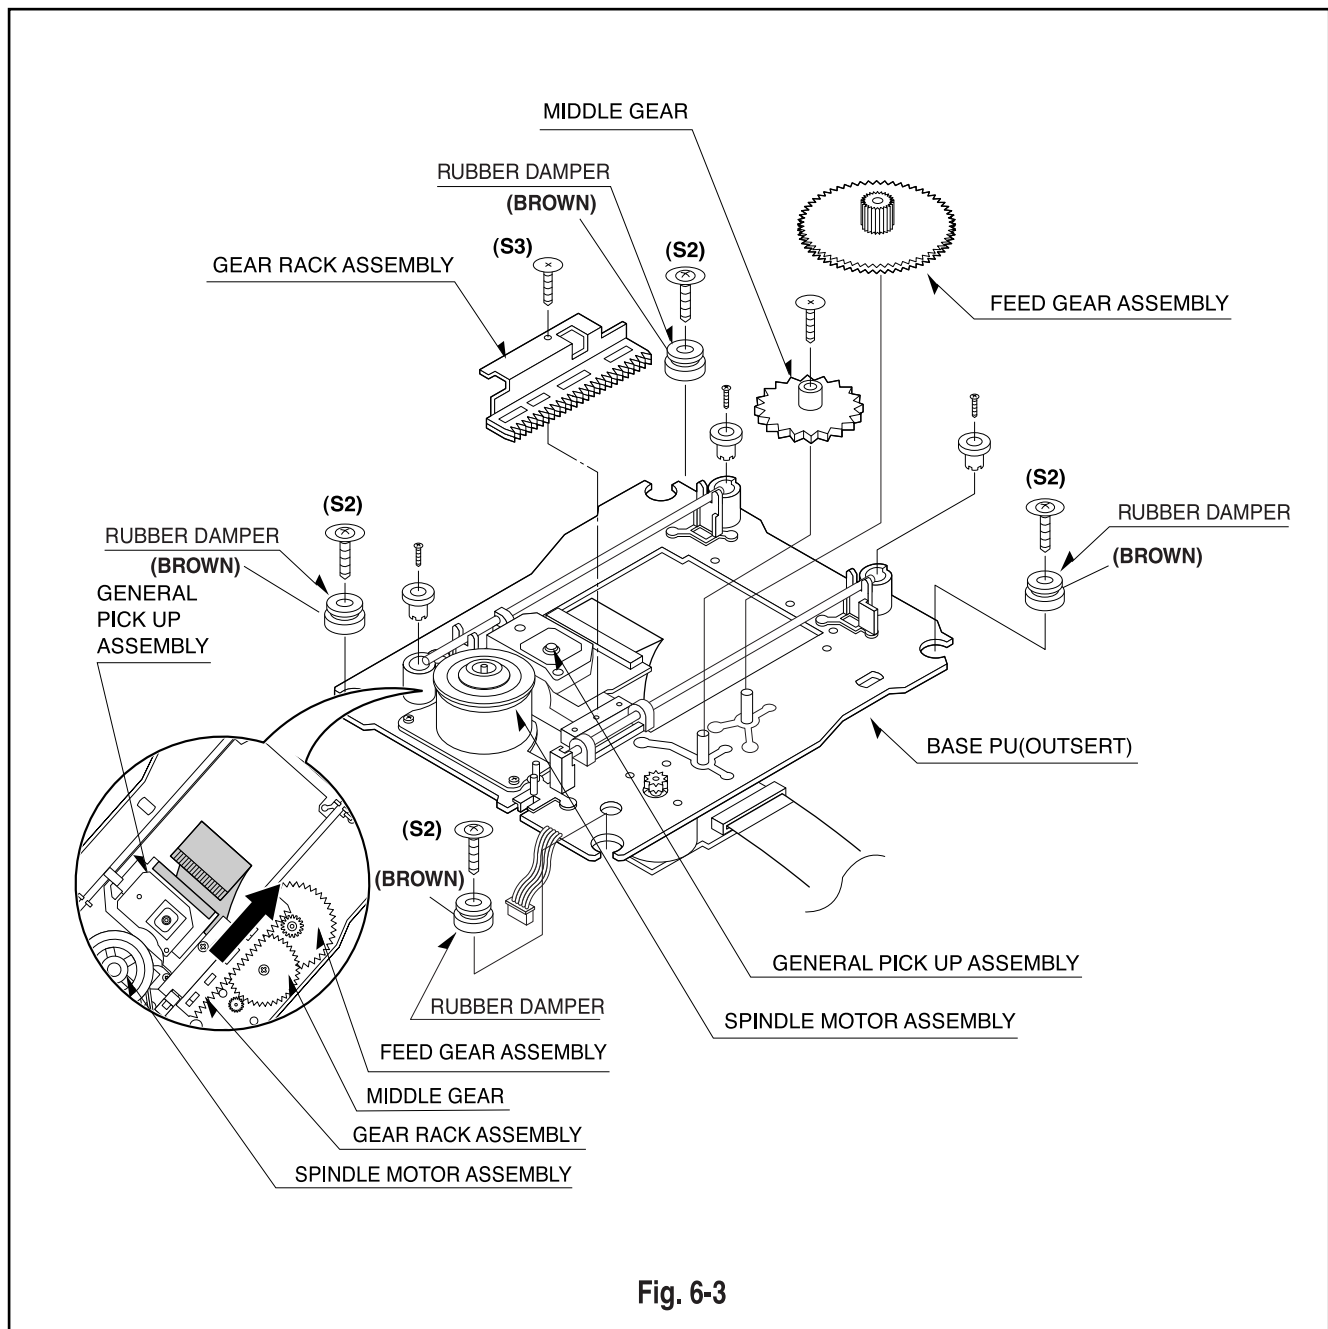

Fig. 6-3
3. Base Assembly Sled (Fig. 6-3)
4. Rubber Rear (Fig. 6-3)